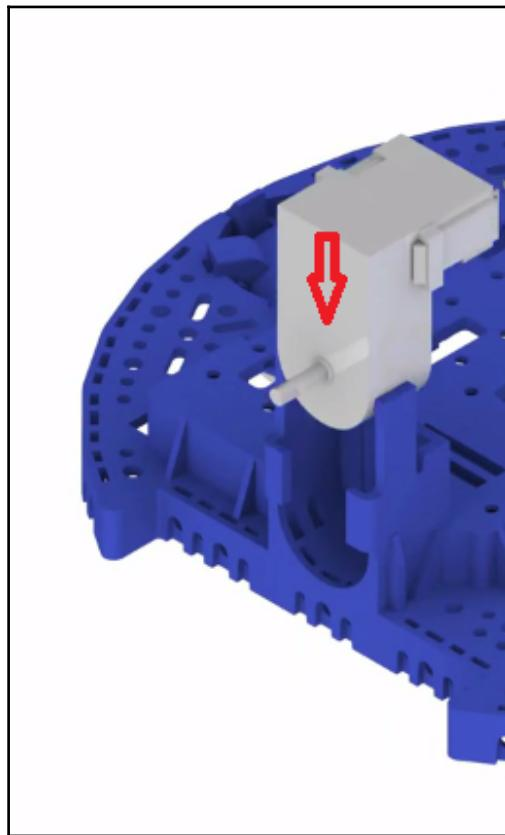

Figure 6.13: Pushing the mini plastic gearmotor into the motor clip. Image courtesy of Pololu—<https://www.pololu.com>
3. Push the mini plastic gearmotor into the motor clip until it snaps into place (*Figure 6.13*). You may hear a click!